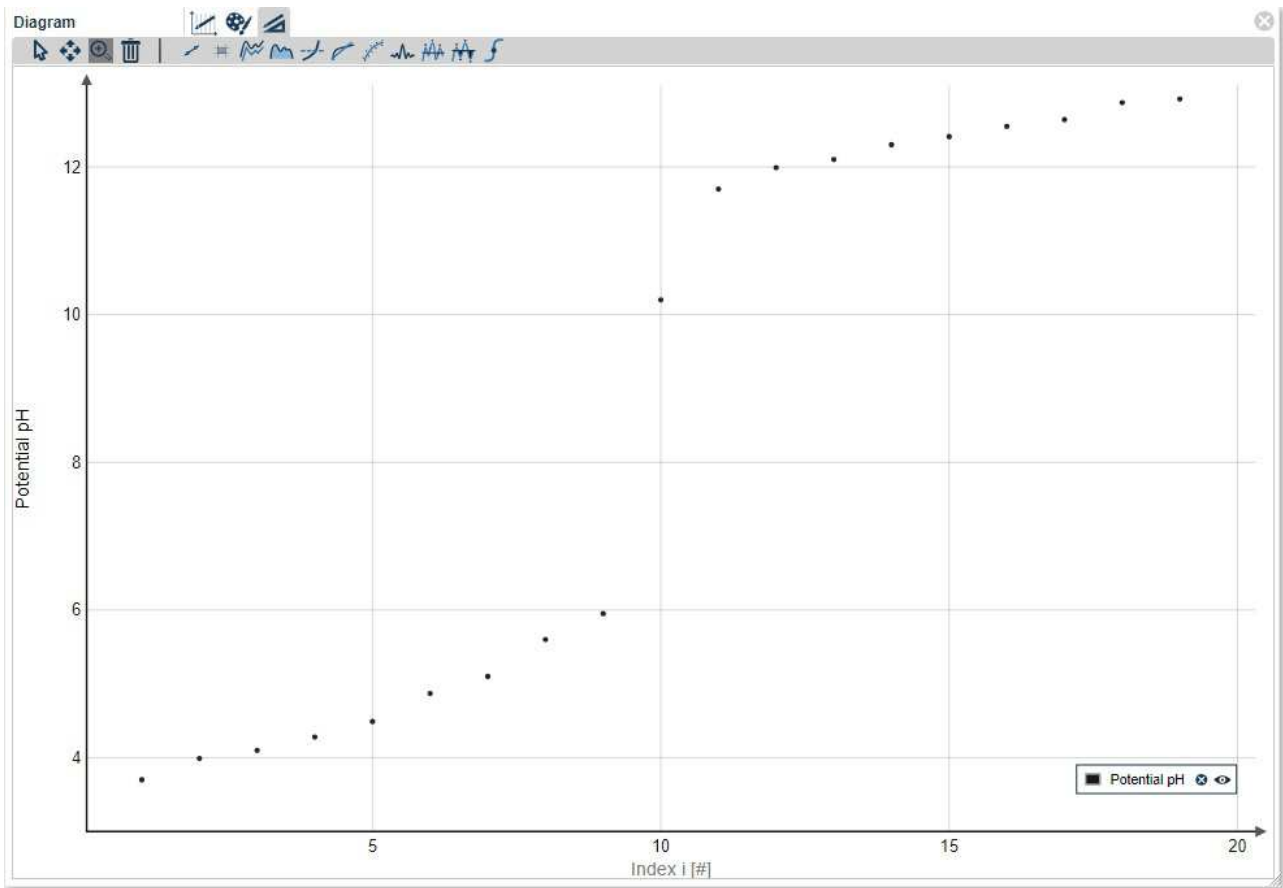
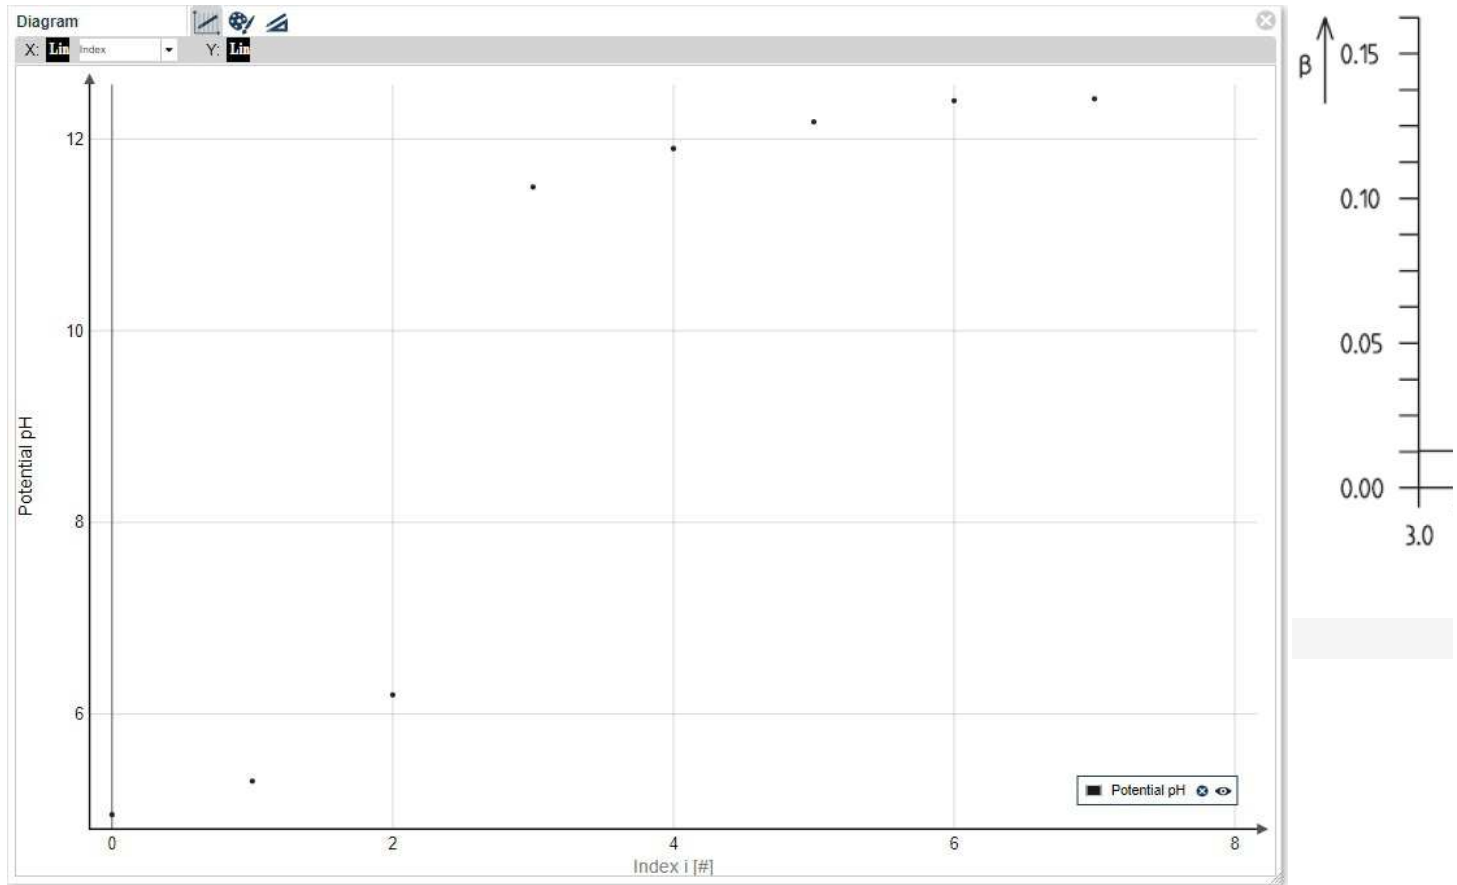

Fig. 8: Curve of the titration of 0.05 M buffer solution I with 0.5 M sodium hydroxide solution.
Fig. 9: Curve of the titration of 0.05 M buffer solution V with 0.5 M sodium hydroxide solution.
- Select pH of the Chemistry sensor (left bar) and display a diagram (pH as y axis; Index as x axis), c.f. Fig. 8 or Fig. 9. Go to  and select 'Points' under Symbol.
The curve of the buffering capacity of buffer solutions (Fig. 9) results according to
Fig. 8 shows the titration curve of a solution containing 44 ml 0.05 molar acetic acid and 6 ml 0.05 molar sodium acetate solution with 0.5 molar sodium hydroxide solution.
Fig. 9 shows the titration curve of a solution containing 6 ml 0.05 molar acetic acid and 44 ml 0.05 molar sodium acetate solution with 0.5 molar sodium hydroxide solution.